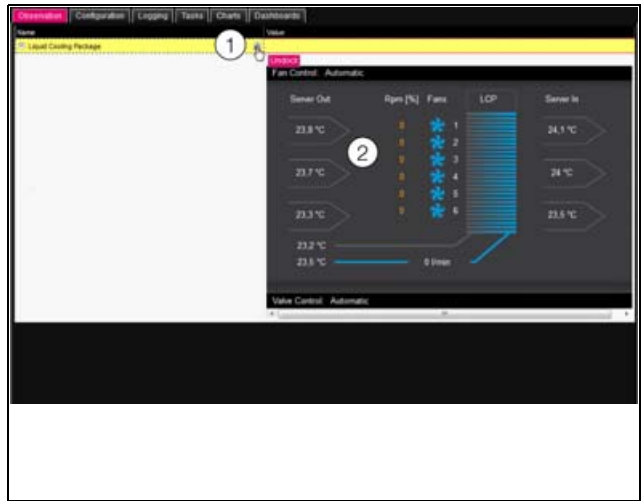

Fig. 84: Graphical representation
The display switches to the graphical representation (fig. 84) and all statuses and speeds of the fans and temperature values for the server inlet and outlet temperature as well as the control modes for the fan and water control can be seen at a glance and amended by clicking the graphic (fig. 84, item 2).
After selecting the "Liquid Cooling Package", if graphical representation (fig. 84) is preselected, you can switch to the tree view as follows:
- Click on the greyed "Graphics" symbol after the "Liquid Cooling Package" entry (fig. 84, item 1).